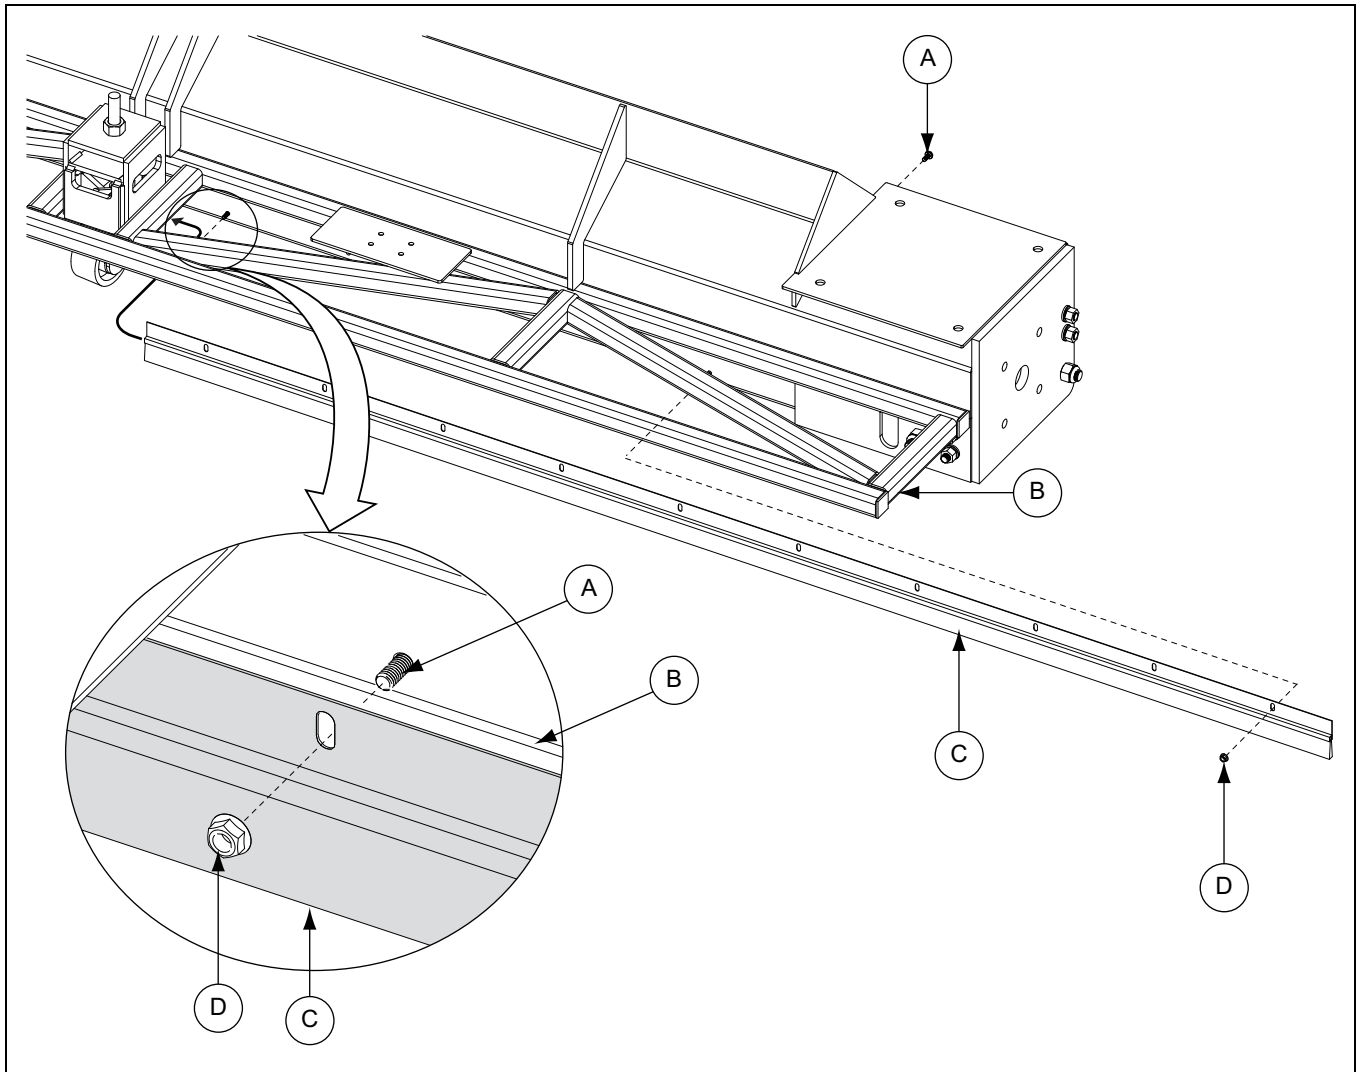

Figure 7K
1. Slide brush assemblies (C) along back of sweep shield (B). Align holes in brush assembly with holes in shield using a drift punch. *(See Figure 7K.)*